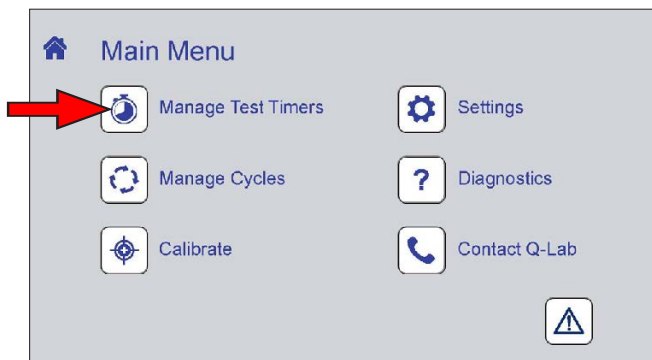

Figure 10.5a: Manage Test Timers icon.
- On the Main Menu screen touch the Manage Test Timers icon to display the Manage Test Timers screen (Figure 10.5a).